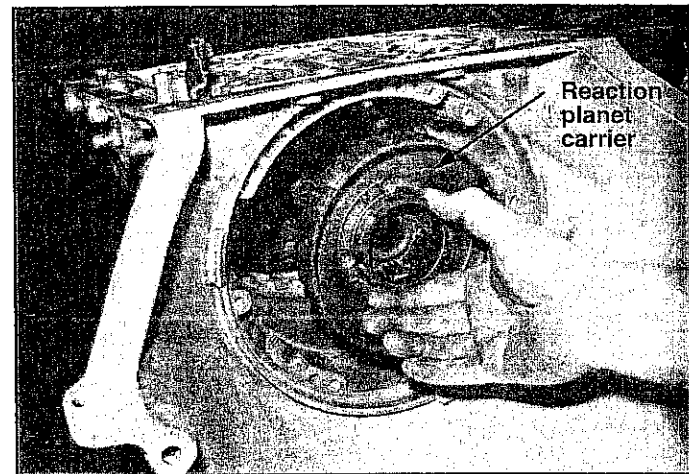
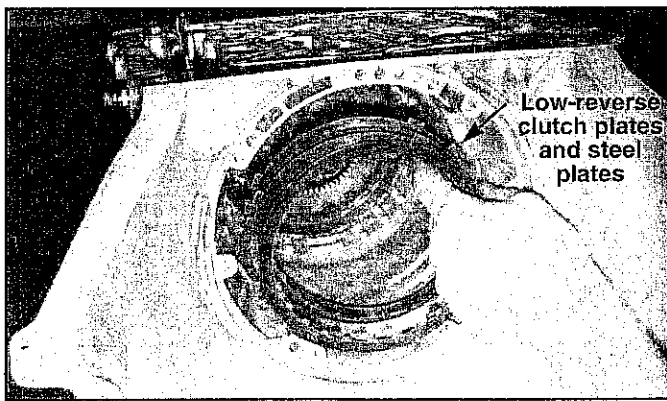

FIGURE 16
FIGURE 17
STEP 24. Remove the reaction planet carrier from the case by pulling straight out. (See Fig. 16) Set the carrier aside. Remove four or five low-reverse clutch plates and steel plates. (See Fig. 17) Set them aside.